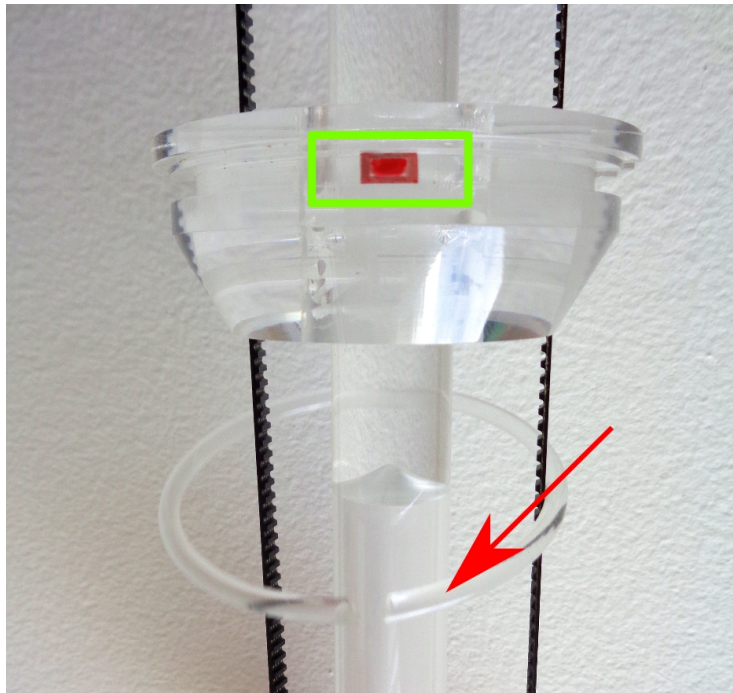

Figure 2: Ring with rubber washer
- Then gently release the ring, as you can see in Figure 2. Pay attention to the position and trapezoid shape of rubber washer and be careful not to lose it.